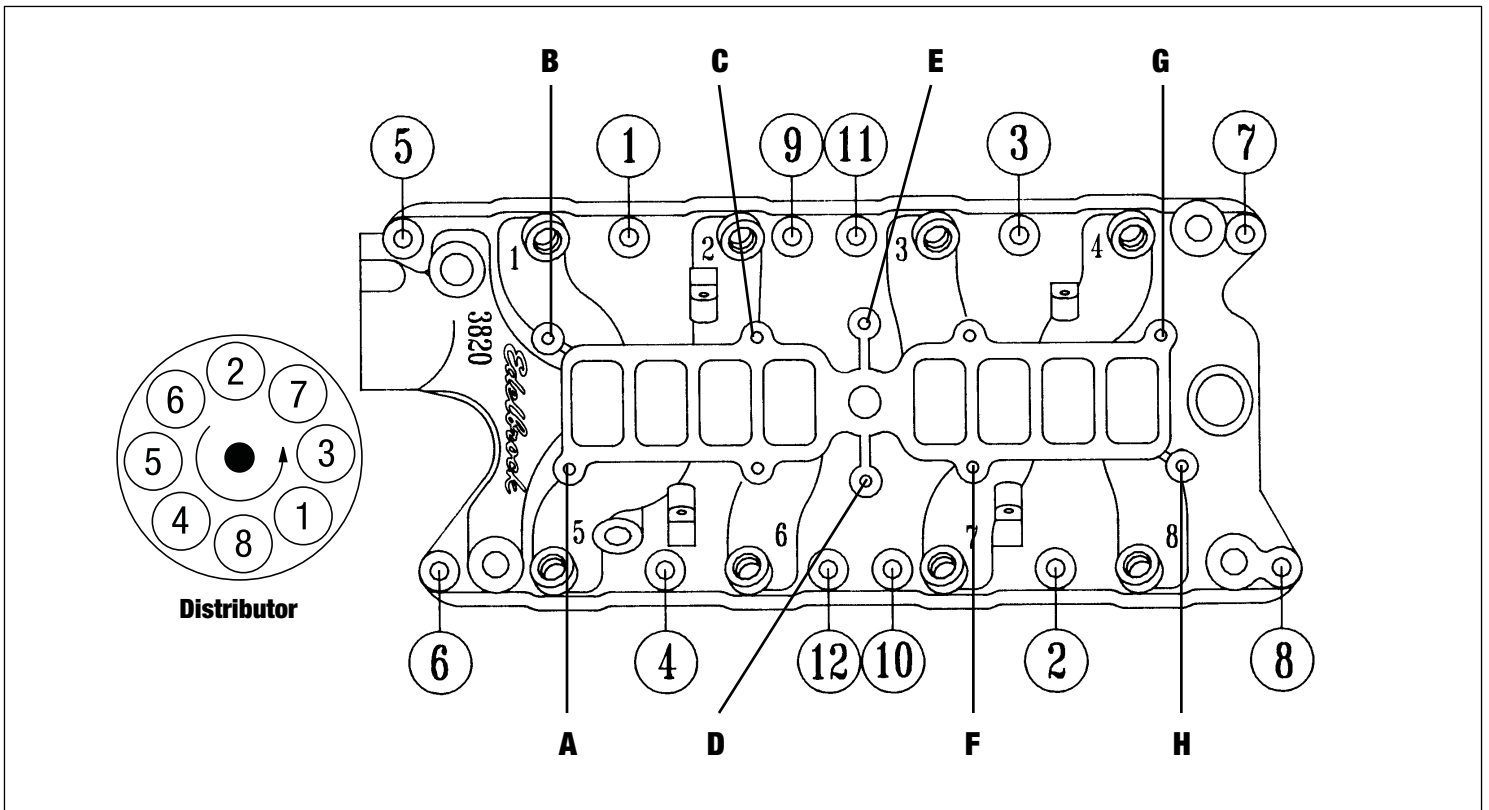

Figure 1 - Intake Manifold Tightening Sequence, Manifold Top-To-Bottom Fastener Locations, and Firing Order
4. For ease of installation, we recommend using Edelbrock manifold bolt and washer kit #8524. It may be necessary to re-use the original stud bolt to hold heater tube bracket in hole #3 (**See Figure 1**).
5. Install lower intake manifold and retaining bolts. Tighten bolts to 15-18 ft./lbs. in sequence (**See Figure 1**).
- Install upper manifold and gasket (dry) using hardware supplied (**See Figure 1 and Fastener Location Chart Below**). Upper manifold must be positioned so that the throttle body is on the passenger side of vehicle, not driver's side. Do not over-tighten manifold base-to-manifold upper fasteners. Use a short box or open end wrench only.